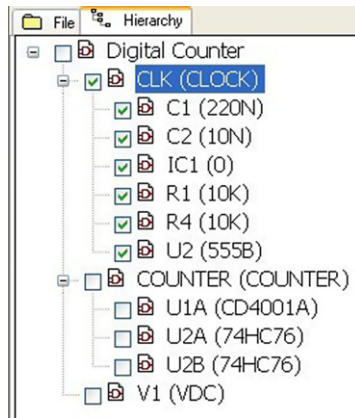

FIGURE 22.11
- In the master design (Digital Counter) Project Manager, click on the **Hierarchy** tab to display the hierarchical design. Expand **Digital Counter** and **Clock** if not already expanded and check all the parts for **Clock** as shown in **Figure 22.11**. Click on the File tab.